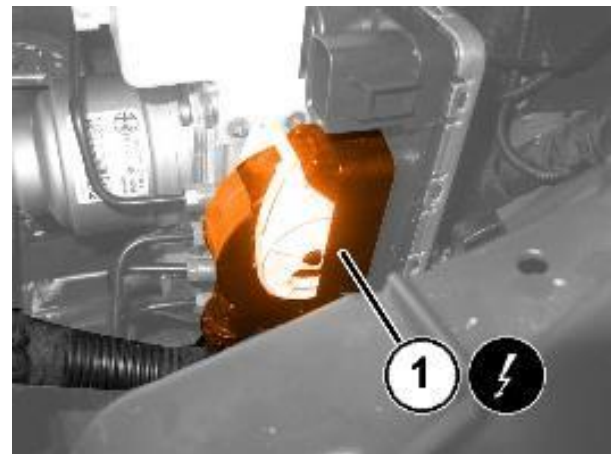

Figure 97 – Electrical Connector
41. Disconnect the electrical connection (1) of the ABS control module (Figure 97).